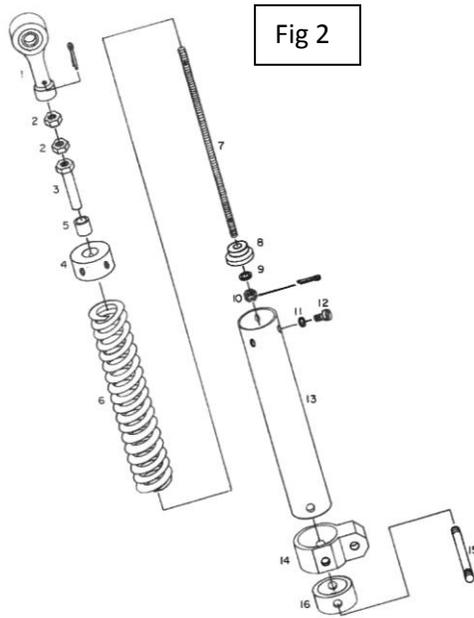
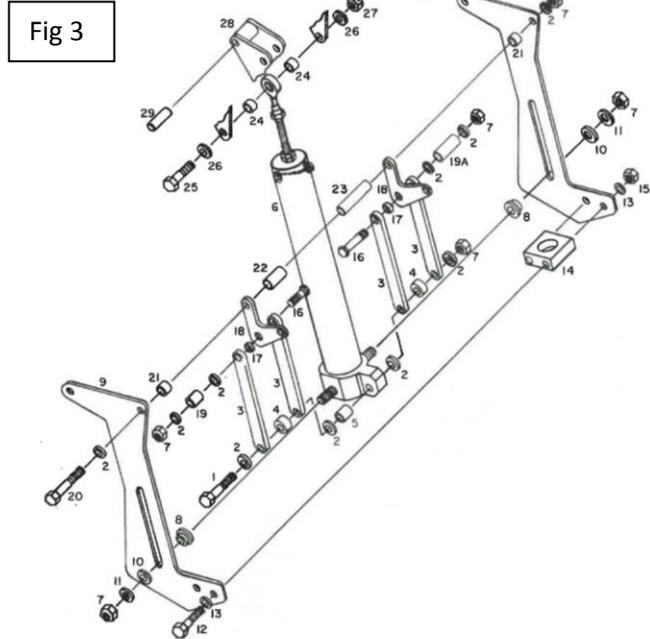

Fig 2
Fig 3
BACKGROUND: The bushing in the top of the belt clutch capsule is a normal wear item and inspecting it for condition should be part of the 100 hr inspection procedure. If the bushing (item 5, figure 2) is allowed to wear through the Teflon coating it will damage the spring capsule adapter (item 4) requiring replacement of both the bushing and adapter.
B. Procedure to change the clutch capsule top bushing. (Item 5, Fig 3)
1. Remove hardware (24, 25, 26, and 27) (Fig 3) connecting the rod end (1) (Fig 2) to the bellcrank (28) (fig 3).
2. Remove three screws and washers (11 & 12) from the capsule (13) (Fig 2).
4. Remove the cotter pin through the rod end bearing, item (1) (Fig 2) and loosen the two check nuts (2).
5. Insert a flat screwdriver blade into the bottom end cap (8) to prevent the nut (10) from turning and remove the rod end (1) and the two check nuts (1) from the shaft (7).
6. Measure the length of the exposed threads on rod (7) for reassembly.
7. Remove the spring capsule adapter (3).
8. Press the bushing (5) from the top end cap (4).
9. Insert a new 07-DU-08 bushing (5) into the top end cap.
10. Measure the adapter (3) to verify that it is within limits. (.4360 to .4370, -.020)
11. Install the adapter (3) and set it back to the same measurement obtained in step 6.
12. Insert the two check nuts (2).
13. Install the rod end (1). Line up the cotter pin hole and install the cotter pin.
14. Apply grease liberally to the spring assembly (6).
15. Insert the spring assembly (1 – 10) back into the housing (13)(Fig 2).
19. Connect and secure the rod end attach hardware, (24 – 27) (Fig 3).
20. Torque nut (27) to 50 to 70 1n-lb and install the cotter pin.
22. Torque the two check nuts (2) (Fig 2) to 30 to 40 in-lb.